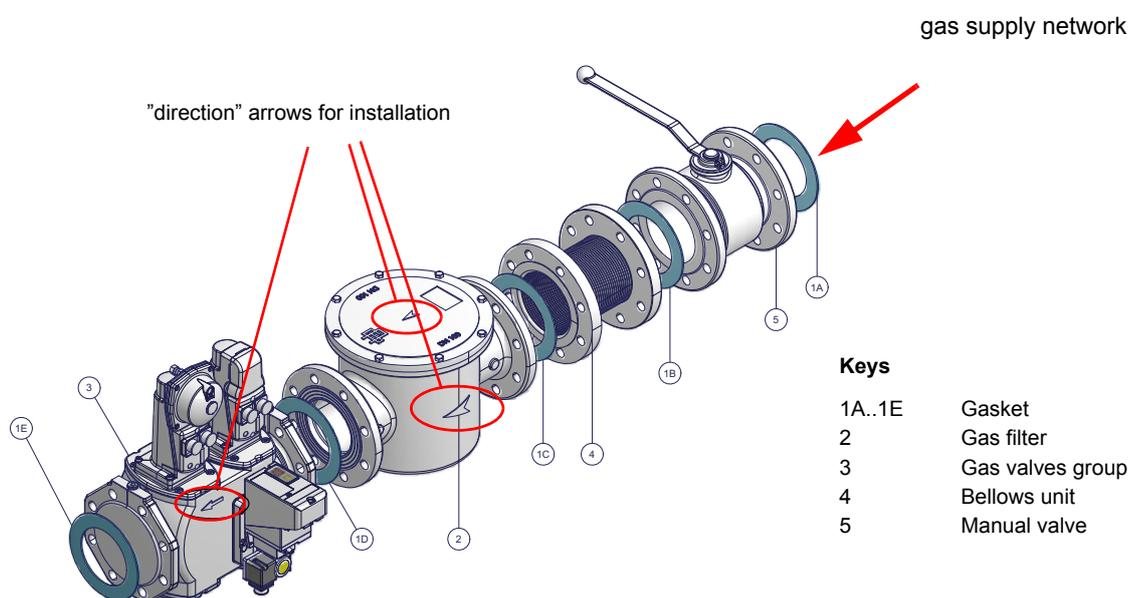

Fig. 8 - Example of gas train
- 1-b) in case of flanged joints: place a gasket (no. 1A..1E - Fig. 8) between the elements
ATTENTION: once the gas train is mounted according to the diagram on Fig. 8, the gas proving test must be performed, according to the procedure set by the laws in force.